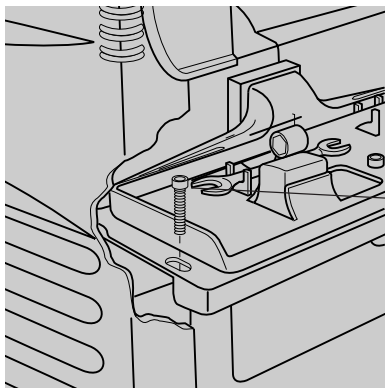

FIG. 15
- 3) Remove the two allen screws near the tool tray, shown in Figure 15. Carefully lift off the dust chute.